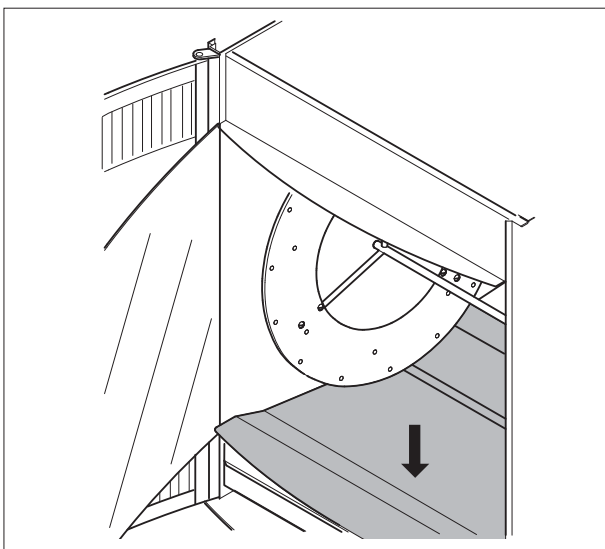

Figure 2.1
- ☒ Put the bottom plates in the STG (see figure 2.1).